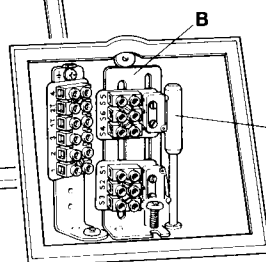

Fig.5
3. Fit auxiliary switch kit bracket 'B' in original position of main terminals, adjacent to vertical switch operating rod 'C' (fig.5). Use the locating holes provided and tighten fixing screw.